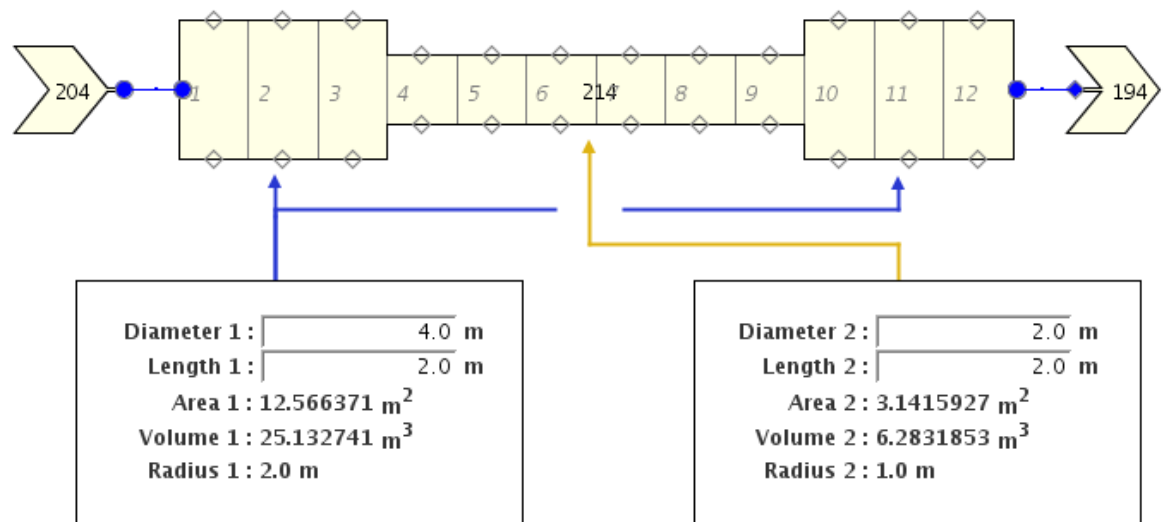

Figure 2.43. User Defined Numerics Example
User-defined numerics can be added to a 2D view in the same way as other components: the **Add To View** menu in the numeric's Navigator node pop-up menu, the **Create View** item from the Numerics Navigator node, etc.. These values are represented in a view as a **Drawn Numeric**. Drawn Numerics that correspond to integers and reals appear as a text label and optional text field (depending on the **Editable** option, described below) that displays the name of the numeric, current value, and units if applicable (e.g. "Area 1" in Figure 2.43, "User Defined Numerics Example"). Booleans appear as check-boxes with a text label that displays the name of the numeric.
- **Editable** - This check-box item enables editing an input variable by entering a new value into the Drawn Numeric (e.g. "Diameter 1" in Figure 2.43, "User Defined Numerics Example" above). Entering a value into a Drawn Numeric and pressing **Enter** will change the value in the same way as editing the numeric properties directly.